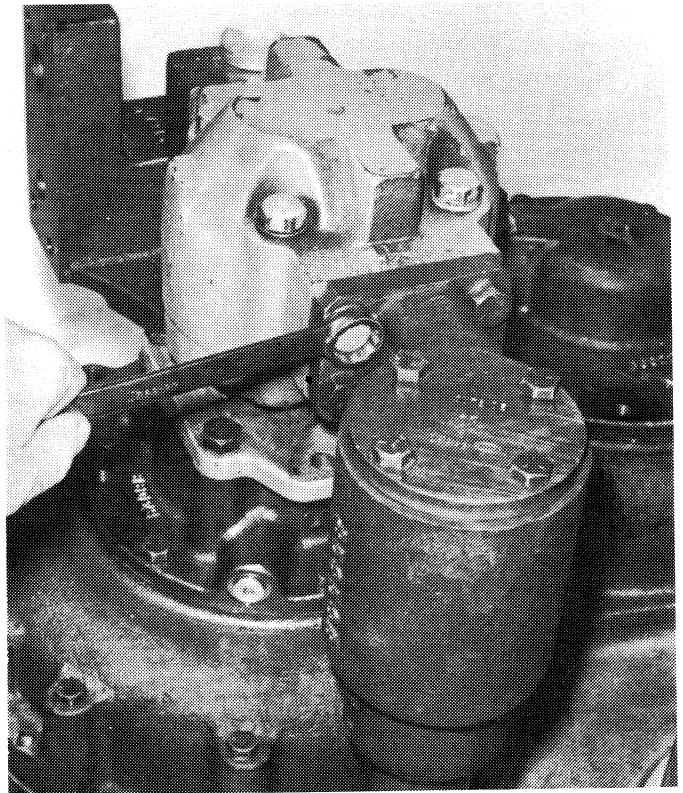

Figure 6-7. Removing or Installing Pump Suction Strainer Assembly.
14. Remove four hex-head screws (Figure 12-1, 32) that secure the pump suction strainer housing (30) to the oil pump (21). See Figure 6-7.